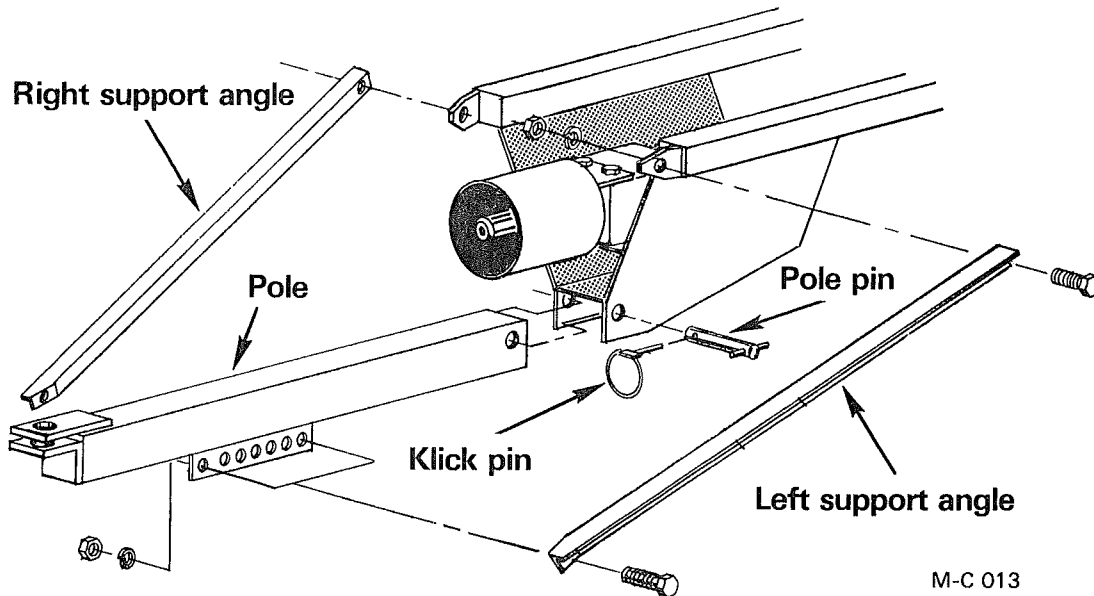

Figure 5
1. Lift the front of the Shredder with a chain hoist and place the pole in position under the gear box and install the pole pin, see Figure 5 and 6. Secure the pole pin with the kick pin. Be sure kick pin ring is snapped into the locking position.
2. There are seven pole support angle mounting holes on each side of the pole, see Figure 5 and 6. Select the position that will set the pole at the correct tractor drawbar height and keep the Shredder body as level as possible (see note). Secure the pole support angles with four $\frac{3}{4}$ "-10 x 2" (Grade 5) hex-head capscrews, lockwashers and nuts.